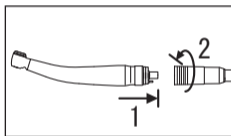

Fig. 4
- 1 Insert the handpiece correctly into the hose connector and tighten the hose nut (Fig. 4).